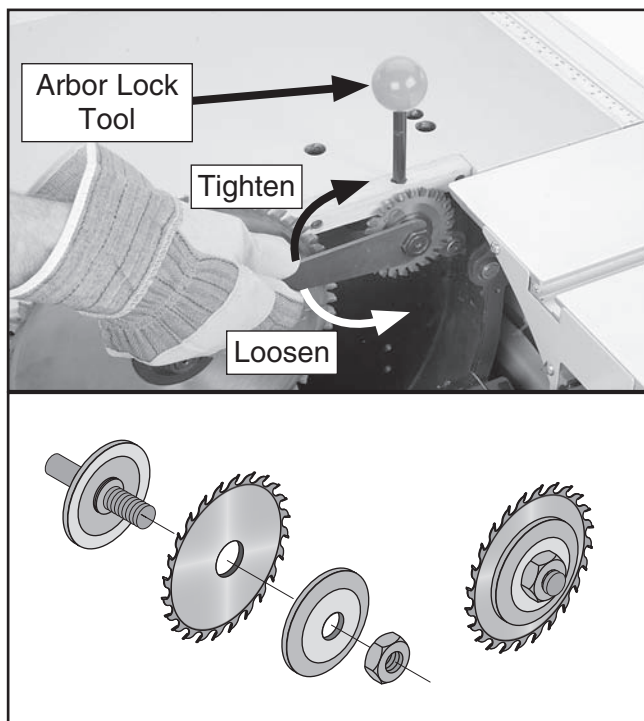

Figure 52. Removing/installing scoring blade.
4. Insert the arbor lock tool in the table, rotate the scoring blade to seat the arbor lock tool, and use the arbor wrenches to remove the arbor nut and scoring blade (see **Figure 52**).
5. Install the new scoring blade as shown in **Figure 52**, tighten the arbor nut, and adjust the scoring blade alignment and height as necessary.